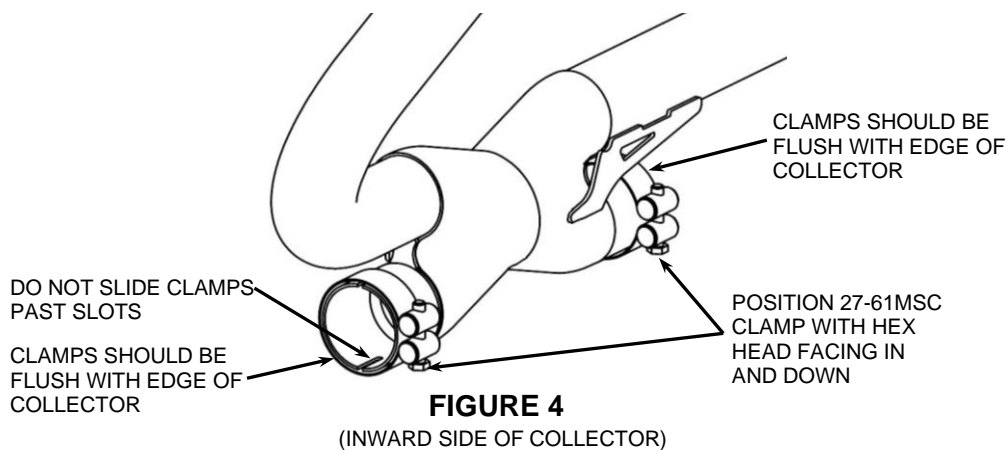

FIGURE 4
9. Position (2) of the supplied #27-61 MSC muffler clamps onto the rear headpipe collector assembly inlet and outlet. The hex head of both clamps should be inward and down. See **FIGURE 4**. (NOTE: The clamps should be flush with the end of the inlet and outlet when tightened. See **FIGURE 4**. If the clamps are slid past the slots on the inlet and outlet the clamps will not tighten properly).
18. Next fully tighten the (2) 27-61MSC clamps on the rear headpipe collector assembly. (NOTE: The clamps should be flush with the end of the crossover assembly inlets when tightened. See **FIGURES 4 & 5**. If the clamps are slid past the slots on the crossover assembly inlet the clamps will not tighten properly).